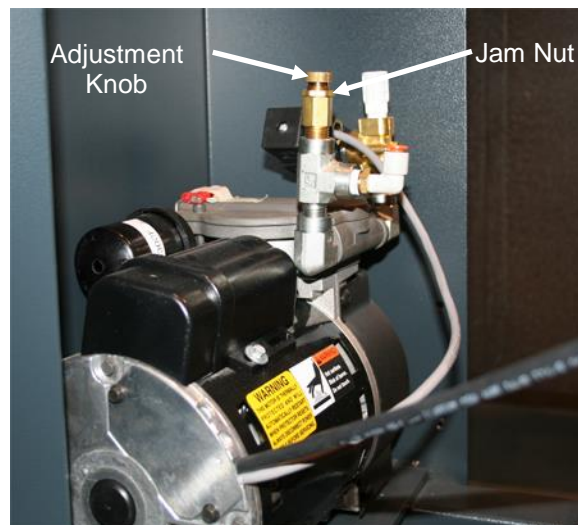

Figure 41
1. Remove lower front cover and locate the pneumatic pressure adjustment knob (Figure 41).